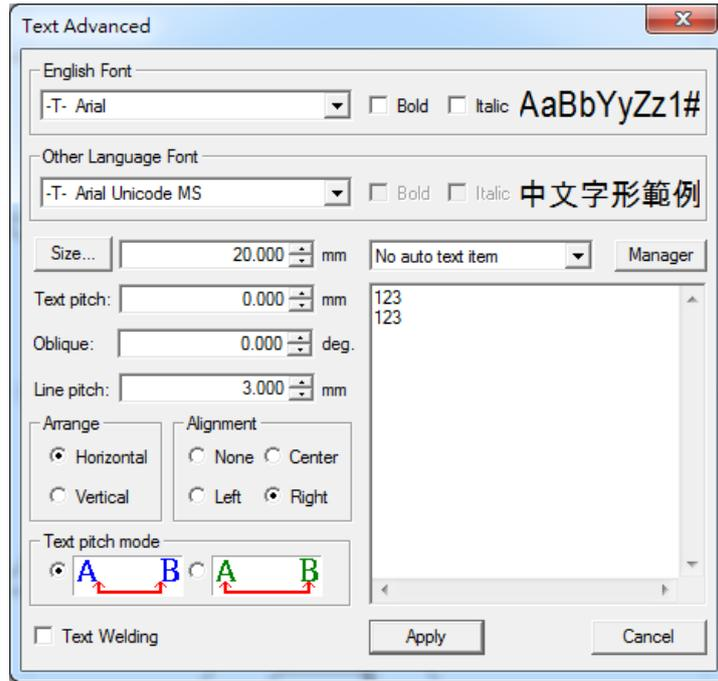

Fig. 3.3.18
**Advance:** Offer further settings for text, see Fig.3.3.18.